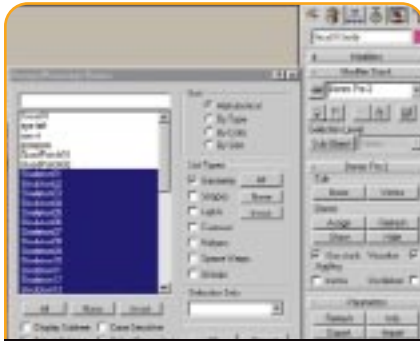

FIGURE 2. *Bones Pro 2 is applied to the target mesh as a 3D Studio Max modifier. You then assign the bones affecting that mesh.*
1. This has advantages for cases in which you animate other modifiers in the stack. Within the Bones Pro 2 rollout, you designate the specific bones that you wish to affect the mesh (Figure 2). You then work in Bone and/or Vertex Sub-Object levels to visualize and adjust the influence of any bones on mesh vertices.